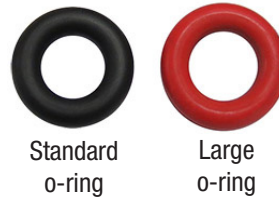

Figure 1 - O-Rings
1. Reuse the stock LS3 port seal gaskets, GM PN 19256623. From under the manifold, install the fuel rails (PN 3654) and injectors using the supplied M6 X 30mm bolts. When installing the injectors onto both the manifold and fuel rails, make sure that the o-rings of the injectors create a complete seal to prevent any air or fuel leaks. Use o-ring assembly lube when installing the injectors. **(NOTE: The manifold is machined with standard 0.554 injector bore sizes. If the injectors being used are suited for larger 0.587 bores (most LS3 stock injectors), replace the large o-ring of the injector with a standard 2-203 (0.572 x .139w) Viton injector o-ring as shown in Figure 1).**